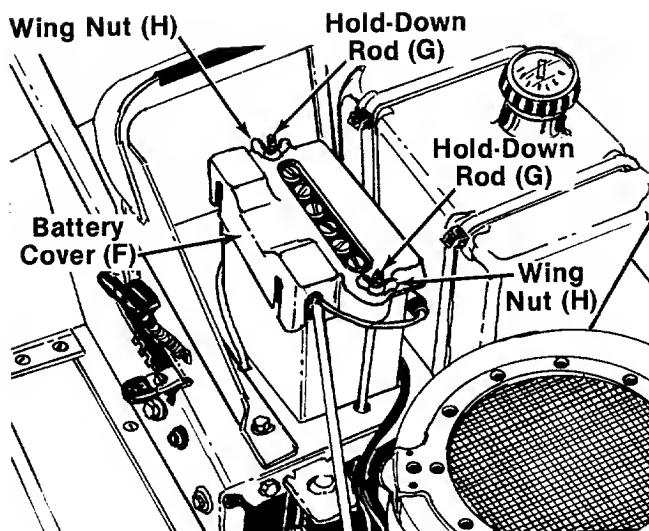

FIGURE 5.
3. Place the battery in the lawn tractor beside the gas tank so that the positive terminal is towards the front of the unit. See figure 5.
4. Slide the square nut (provided with battery hardware) into the positive (+) terminal. Place the positive (heavy red wire) cable and the small red wire on the positive terminal. Secure with screw and lock washer provided. See figure 5.
6. Place the battery cover (F) in position over the battery and hold-down rod. Secure with wing nut (H). Attach other hold-down rod to the other side of battery cover in the same manner. See figure 5.